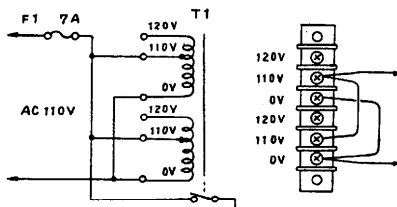

Figure 6.2 Connection for AC 110V
- (3) Change the wiring tap at the primary of the transformer, as shown in Figures 6.2 through 6.6.
- (4) When changing from the 100V-system to the 200V-system or vice versa, also change the capaci-